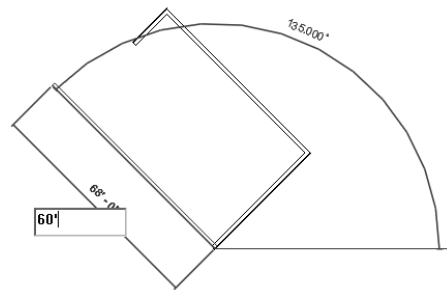

Figure 3-42 Sketching the fourth inclined wall segment
7. To create the next wall, move the cursor upward toward the left and invoke the perpendicular snap override as in step 5. Enter **60'** as the length of the wall segment and press ENTER to create the fourth inclined wall segment, as shown in Figure 3-42.